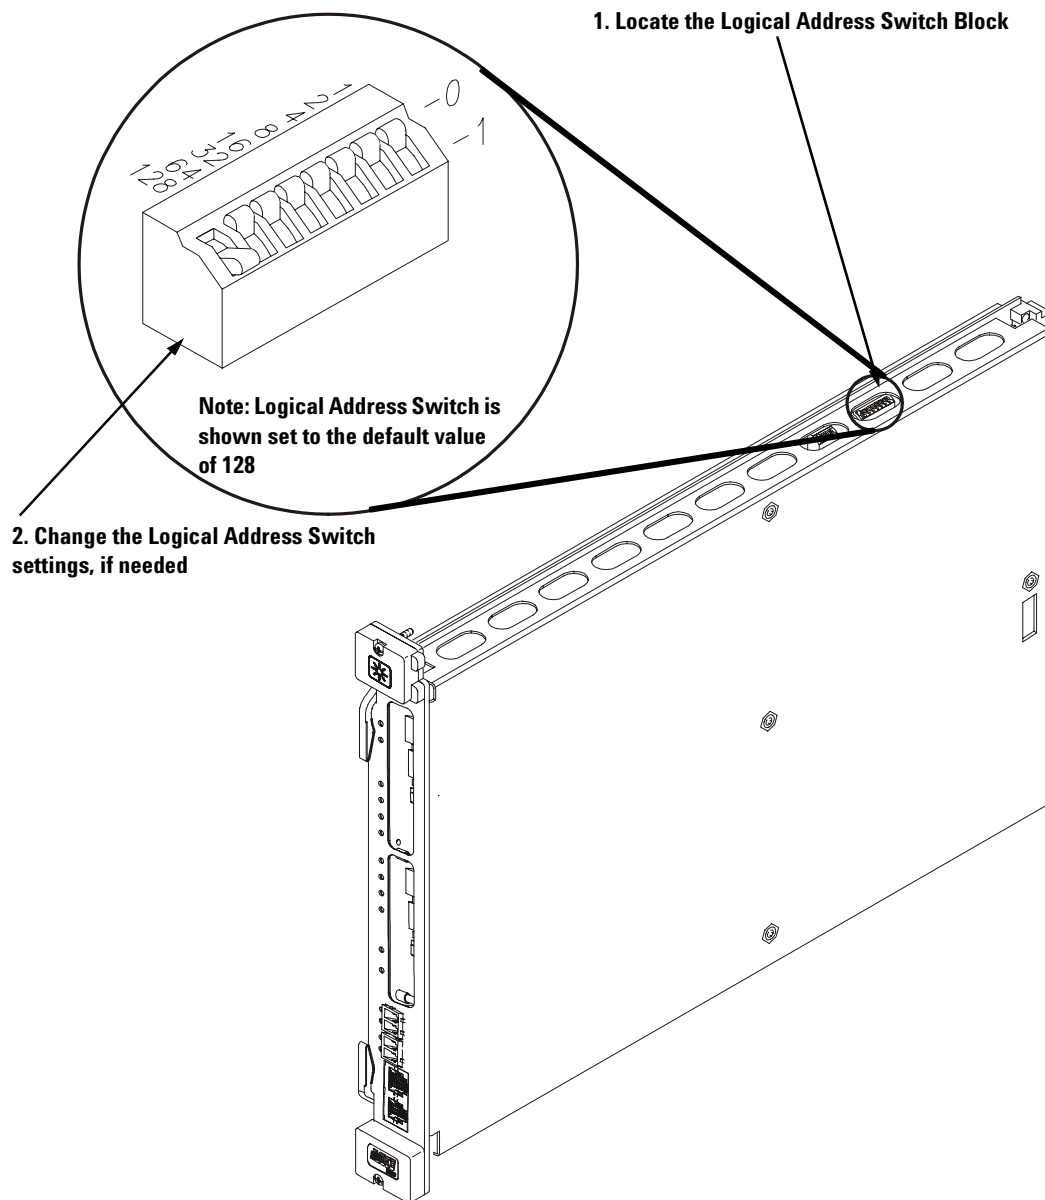

Figure 3 Setting the Logical Address Switches
The module's logical address is the decimal equivalent of the binary value of the switches set to '1' on the logical address switch block (see Figure 3). For example, if the third switch (decimal 4) and fifth switch (decimal 16) are set, the module's logical address is the decimal equivalent of the binary 0001 0100 or 20. The factory default setting is 1000 0000 (128), as shown in Figure 3. Use a small screwdriver, or similar tool, and change the setting, if needed.